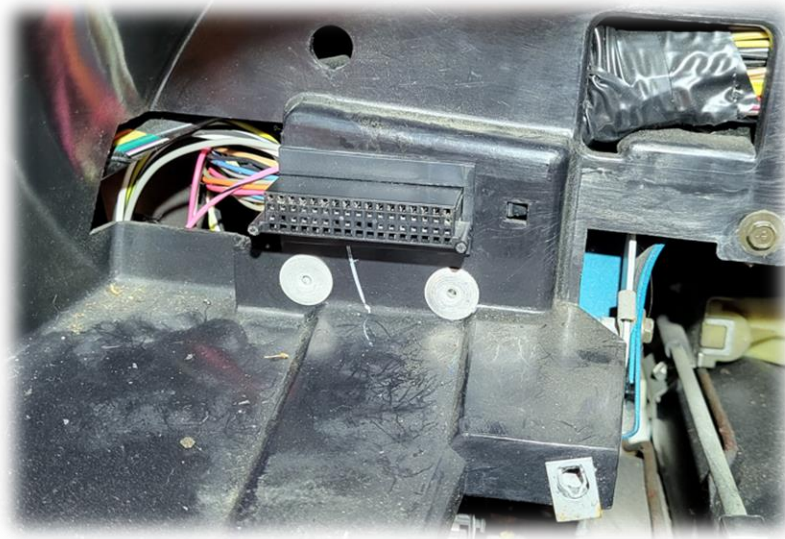

Figure 7
8. With the cluster removed and already set aside in previous step it is time to work on the main cluster wiring connector. Figure 7.